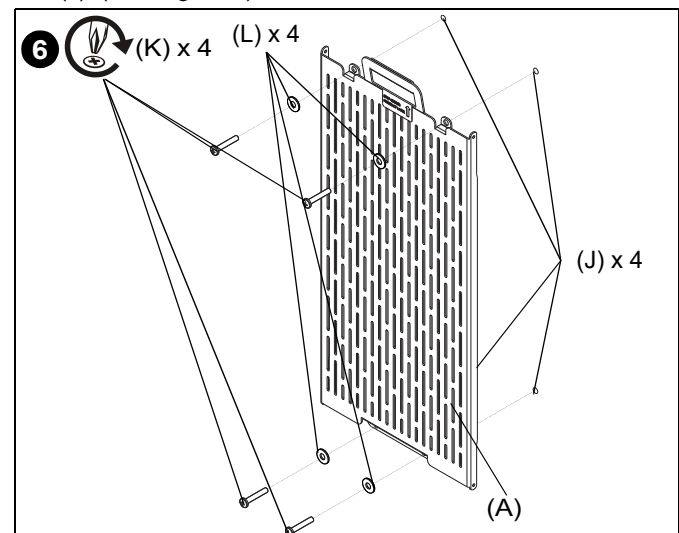

Figure 5
8. Place mount over anchors and align mounting holes on mount with holes in anchors. (See Figure 5)
9. Use four 1/4"-20 x 1 3/4" Phillips pan machine screws (K) and four 1/4" washers (L) to secure wall plate (A) to anchors (J). (See Figure 5)